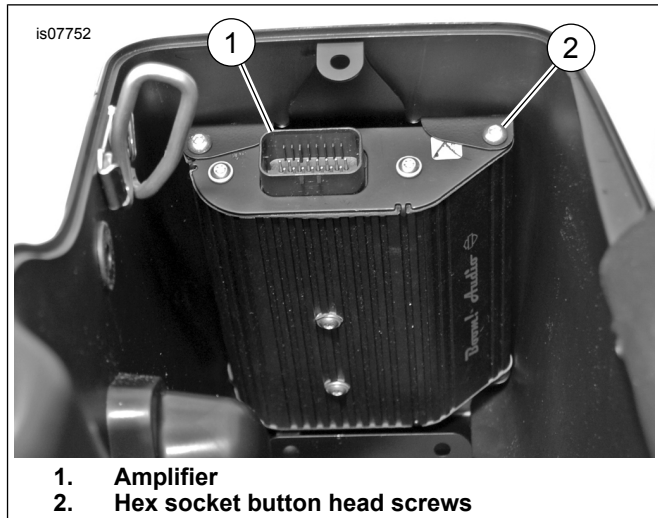

Figure 8. Amplifier Installation
14. See Figure 8. Position the amplifier with the grommets in the holes in the bottom of the amplifier bracket. Slide the top into the bracket. Install the hex socket button head screws (2). Tighten.